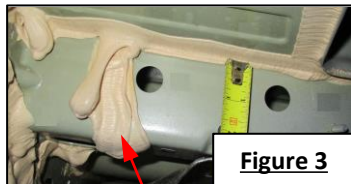

Figure 3
- Remove caulking** – Using a knife scraper, remove excess caulking from outer surfaces of frame rails so hitch bracket will sit flat against the frame. **See figure 3.**